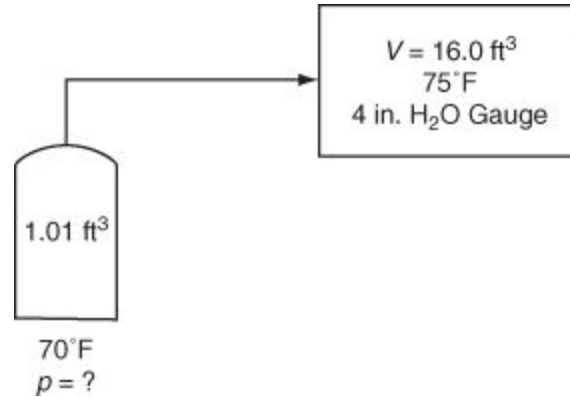

Figure P7.1.7
****7.1.7.** An oxygen cylinder used as a standby source of oxygen contains O_2 at $70^\circ F$. To calibrate the gauge on the O_2 cylinder, which has a volume of 1.01 ft^3 , all of the oxygen, initially at $70^\circ F$, is released into an evacuated tank of known volume (15.0 ft^3). At equilibrium, the gas pressure was measured as 4 in. H_2O gauge and the gas temperature in both cylinders was $75^\circ F$. See Figure P7.1.7. The barometer read 29.99 in. Hg.